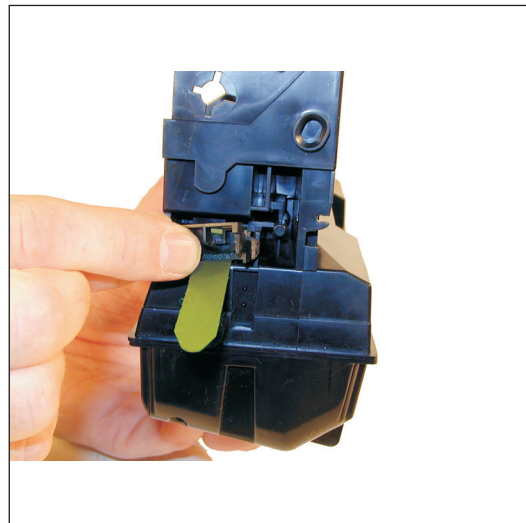

Figure 26
20) Install the seal plug, make sure it locks in place, and that the pull tab on the seal is not pinched. See Figure 26